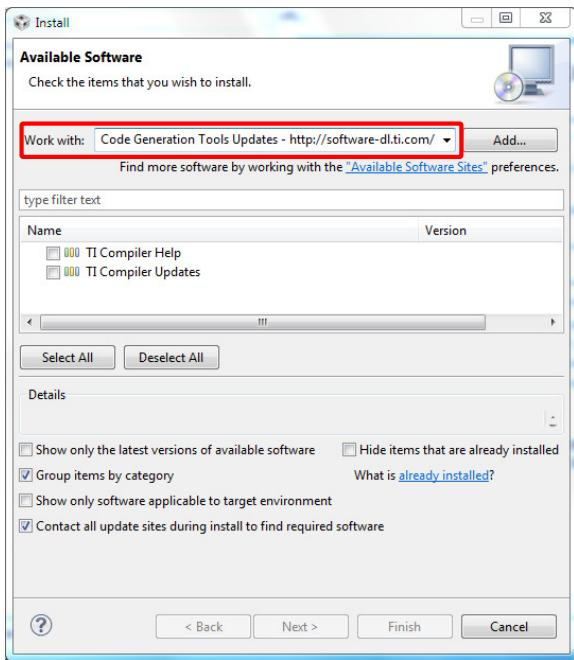

Figure 5.3: **Work with** field
3. From the **Work with** list, select **Code Generation Tools Updates** (see Figure 5.3 on page 17). If this option is not available, then you need to perform the following sub-steps, otherwise continue with step 4 on page 18.